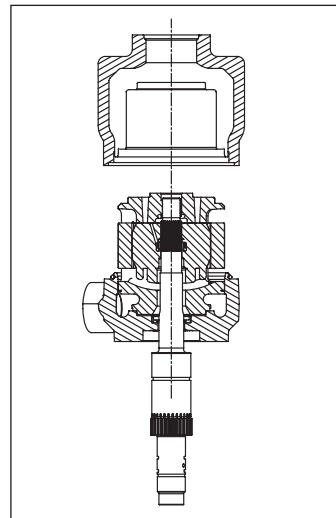

Figure 42
3. Remove the housing (**Fig. 42**).